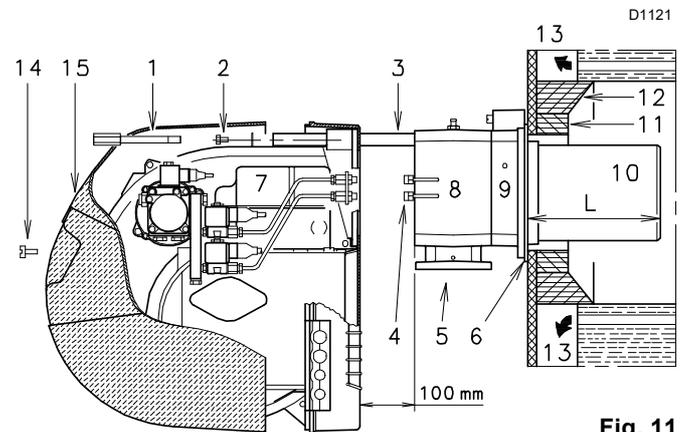

Fig. 11
For boilers with a water-cooled front piece, a refractory lining 11)-12)(Fig. 11) is not necessary, unless expressly requested by the boiler manufacturer.
- Separate the combustion head from the rest of the burner (Fig. 11):
Once this operation (if necessary) has been carried out, fix the flange 9)(Fig. 11 on page 18) to the boiler plate, interposing the insulating gasket 6)(Fig. 11 on page 18) supplied. Use the 4 screws supplied with the unit, after protecting the thread with anti-locking product. The seal between burner and boiler must be air-tight.
- Refit the burner 4)(Fig. 17) on the slide bars 3) at about 100 mm from the pipe coupling 5), burner in the position shown in Fig. 11 on page 18.
- Reconnect the light oil pipes by screwing the two fittings 4)(Fig. 11 on page 18).